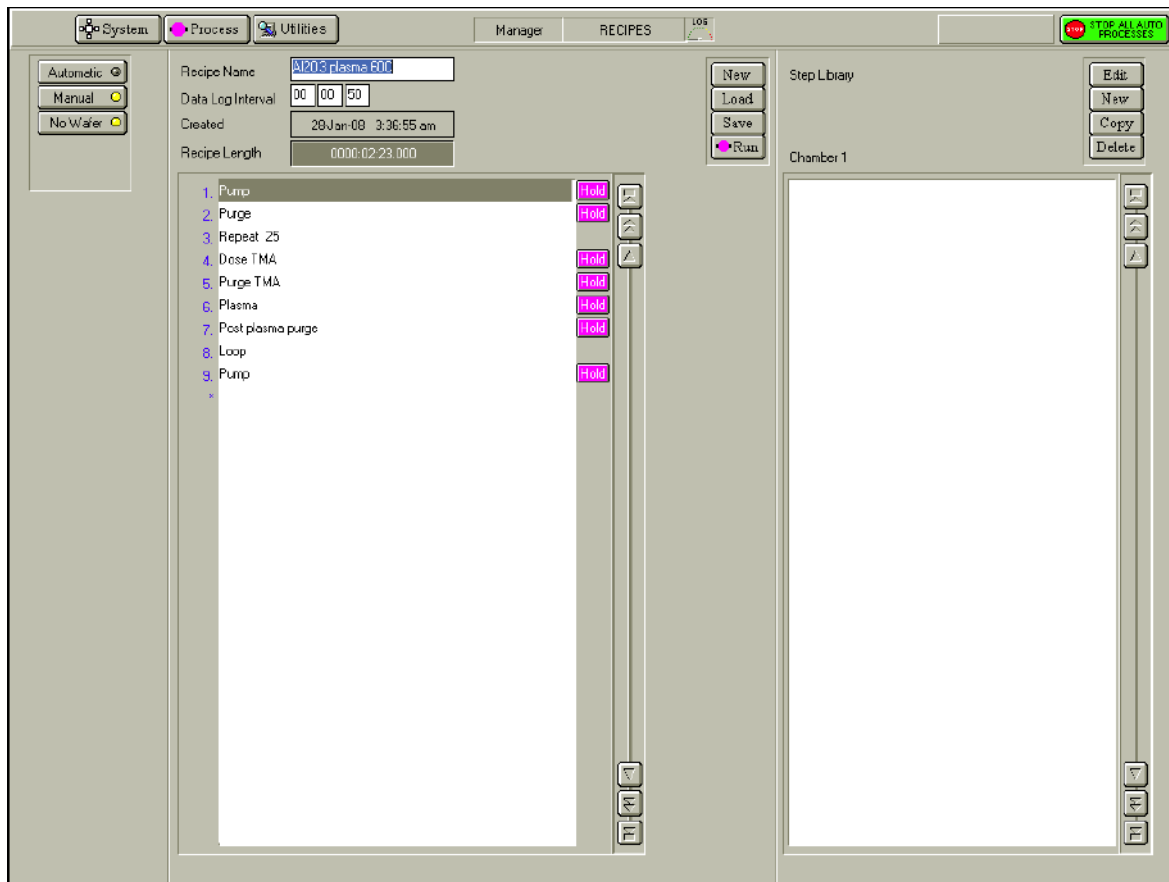

Figure 5-11 RECIPES page
- 10 Click **Run** (see Figure 5-11). This initiates the following automatic sequence: